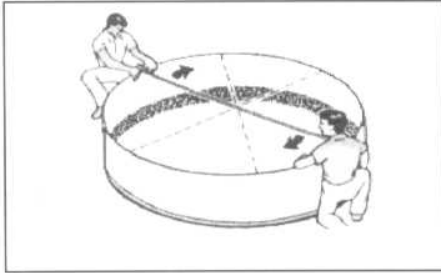

Fig. 5
- h) Make sure that the swimming pool is completely circular (fig. 5). Adjusting the pool to the proper shape may cause the base profiles to slip out of alignment a little. Recheck and put in place if necessary.